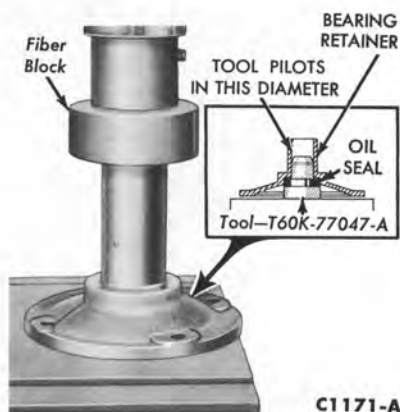

FIG. 10—Input Shaft Oil Seal Installation
14. Place a new gasket on the input shaft bearing retainer. If the input shaft oil seal was removed from the retainer, install a new oil seal as shown in Fig. 10. Install the input shaft bearing retainer, using sealer on the bolts. Line up the drain groove in the retainer with the oil hole in the case.